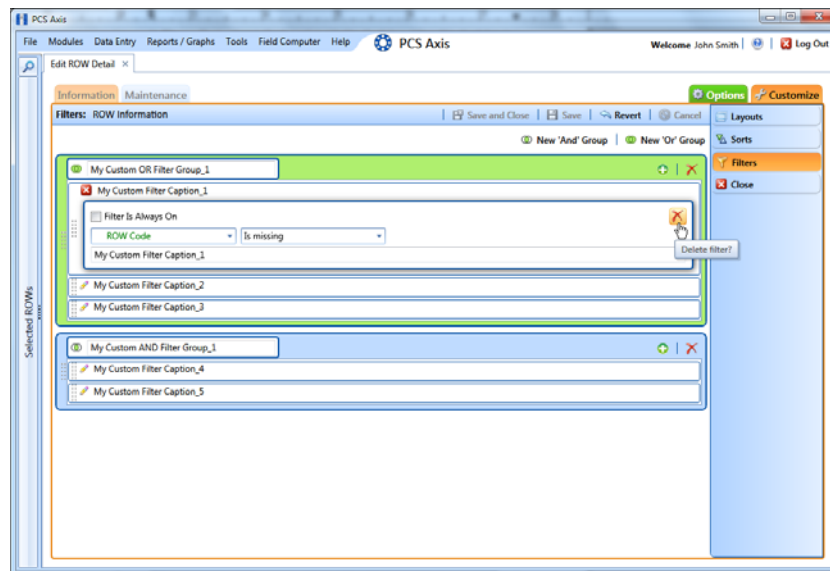

Figure 3-33. Filters
- 6 To delete a filter in a filter group, click the filter's  delete button (Figure 3-33). Then click  **OK** when the *Delete* message displays.